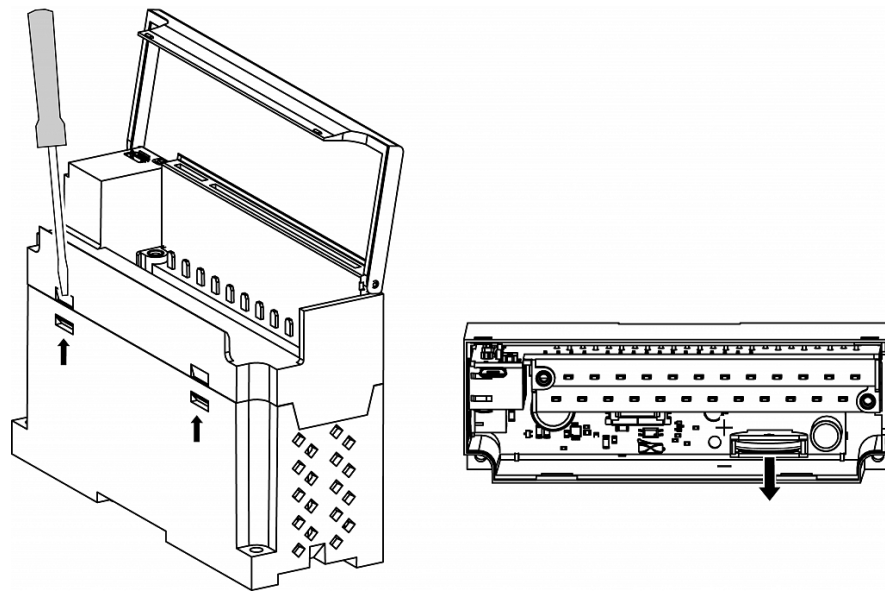

Fig. C.1 Battery replacement
- remove the front part of the case by opening the four side latches one-by-one using a flat screw-driver (Fig. C.1)